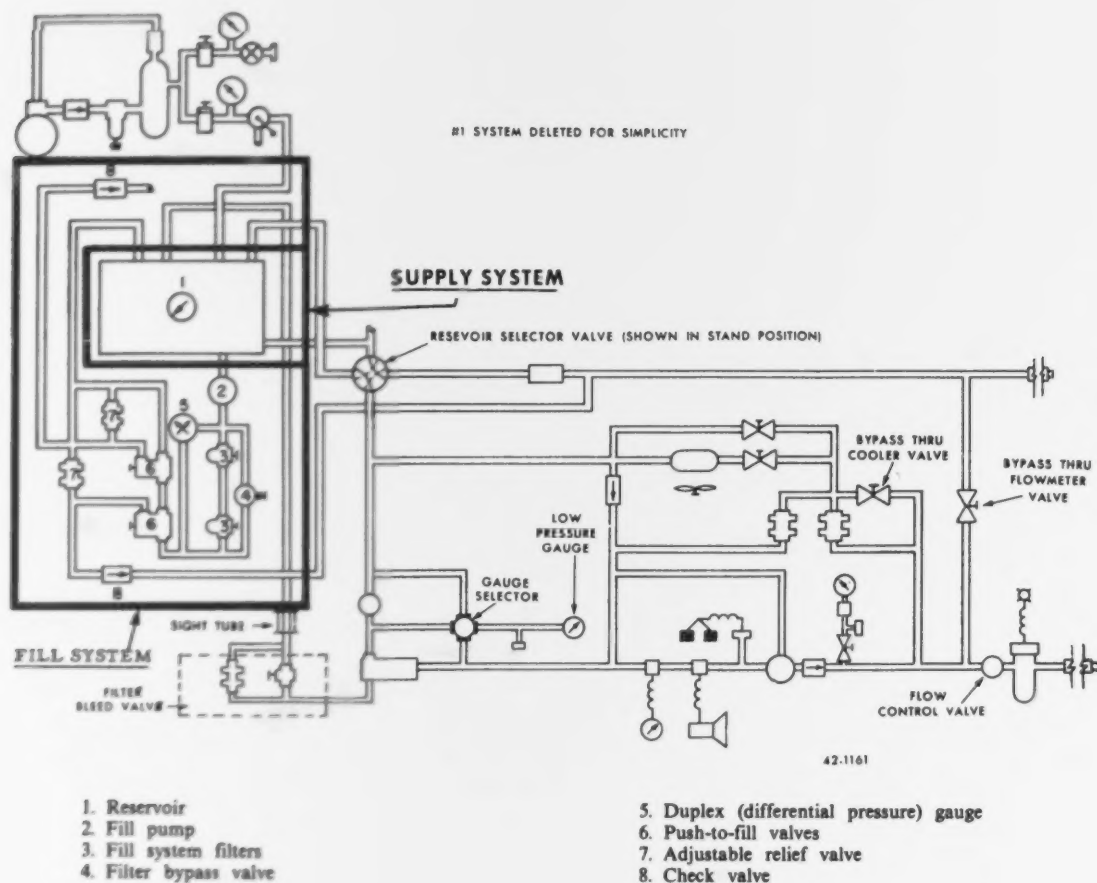
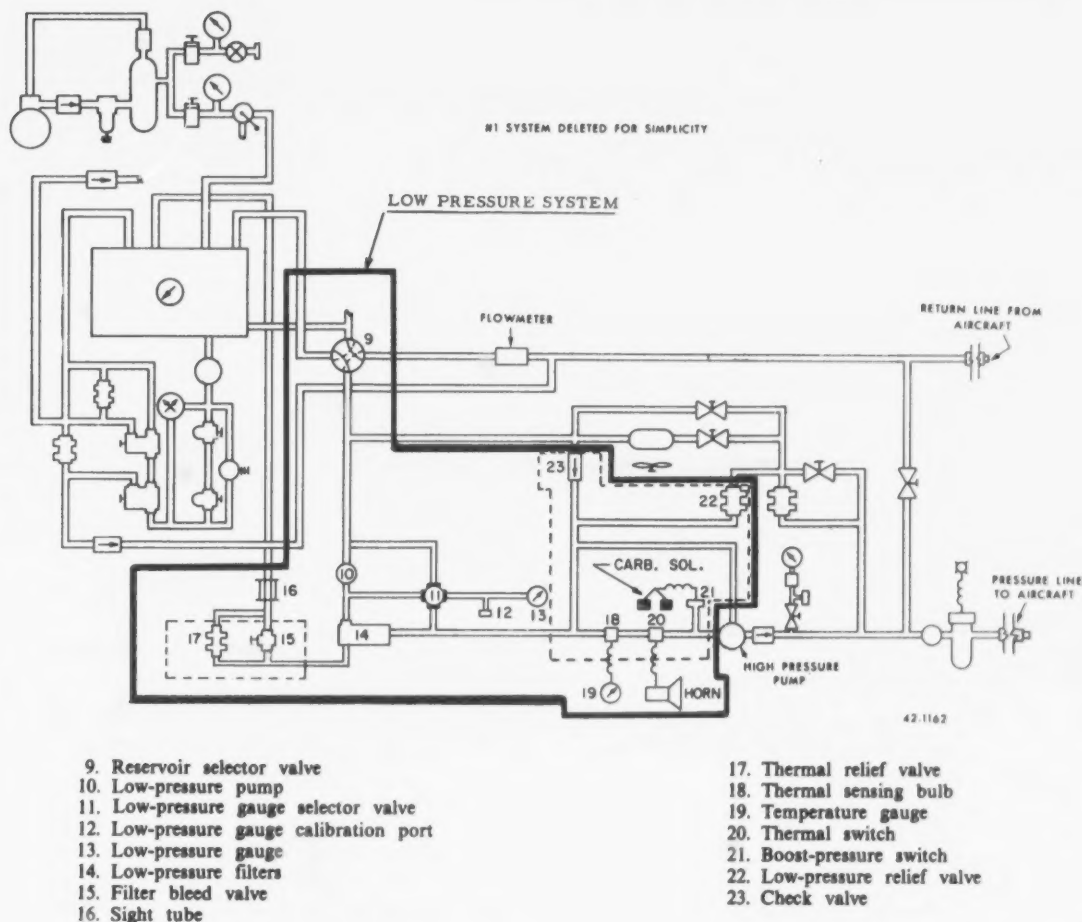

Figure 5-2. Fill and bleed system (MJ-2A).
Figure 5-3. Low-pressure system (MJ-2A).
Figure 5-2 is an illustration of part of the hydraulic system of the MJ-2A hydraulic test stand. You will recall that the unit has two identical high-pressure systems. For simplicity, only one of the systems is shown. The other system, which has been omitted from the top of the diagram, will have the same components and will operate in the same manner.
The dark bordered areas on figure 5-2 illustrate both the supply system which is simply the reservoir (1) and the fill system. The "bleed" portion of the fill and bleed system can actually be considered as part of the low-pressure system. For this reason the filter bleed valve is not included in the area shown as the fill system.
Fill pump. The fill pump (item 2 of figure 5-2) is a two-gear positive displacement pump. It is driven by a 24-volt DC motor. The purpose of the fill pump is to supply the pressure necessary to force fluid from the reservoir to all lines and components of the test stand.
the main system and components. The initial filtering is provided by the top filter (3) in figure 5-2. This filter removes most of the dirt and contaminating particles from the fluid. Final filtering is provided by the second filter which traps many of the contaminating particles which were small enough to pass through the first filter.
Figure 5-3 illustrates the same systems and components of the hydraulic test stand as shown in figure 5-2. In figure 5-3, however, the dark bordered area includes the components of the low-
Low-Pressure System Operation. After the systems have been filled and the air is bled off, you are ready to run the engine. When the engine starts, the boost pump (10) draws fluid from either the stand reservoir or the aircraft reservoir, depending on the position of the reservoir selector valve (9). Let's assume that the selector is in the STAND position, as shown in figure 5-3.
The low-pressure gauge selector valve (11) has three positions; **BOOST PUMP SUCTION**, **FILTER INLET**, and **FILTER OUTLET**. You can check the operation of the boost pump by placing the low-pressure gauge selector valve in the **PUMP INLET** position. This will give you the amount of pump suction. By placing the selector in the **FILTER INLET** position it will give the pump pressure. You can see in figure 5-3 that the inlet pressure to the filters is the same as the outlet pressure of the boost pump. Inlet or suction pressure is indicated on the gauge in inches of mercury (Hg). Outlet pressure is measured in pounds per square inch (psi).